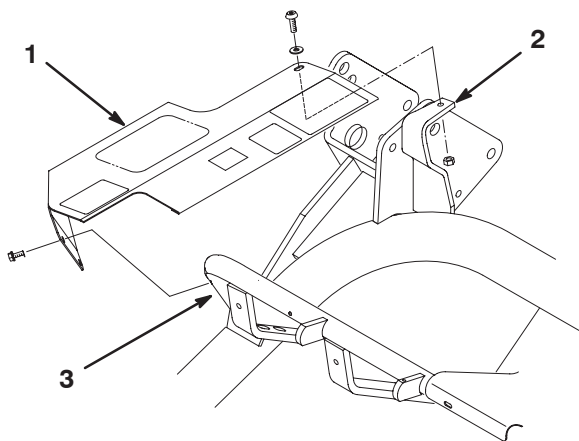

Figure 8
1. Align the cover mounting holes with the holes in the frame tube and mounting bracket (Fig. 8).
2. Loosely secure the rear of the cover to the top of the mounting bracket with a socket head screw (1/4 x 3/4 in.), washer (1/4 in.), and a locknut (1/4 in.) (Fig. 8).
3. Loosely secure the front of the cover to the frame tube with two self tapping screws (Fig. 8). Tighten all of the cover mounting fasteners.